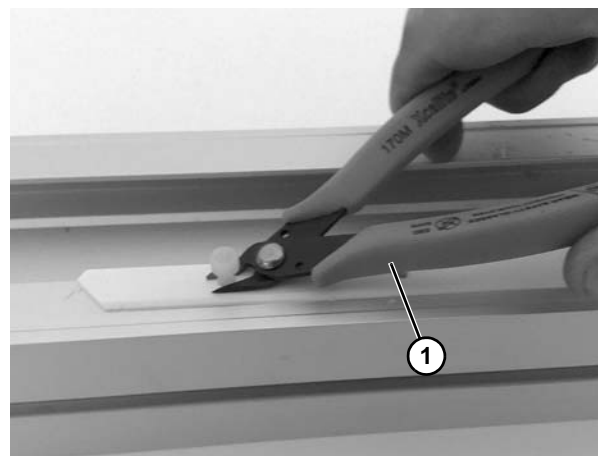

Figure 40
2. Cut off the head of nylon screws by using flush cutting pliers (**Figure 40, item 1**) or soft hammer and knife (**Figure 41, item 1**). Remember, the cut must be made away from the joint, in the direction of chain travel.